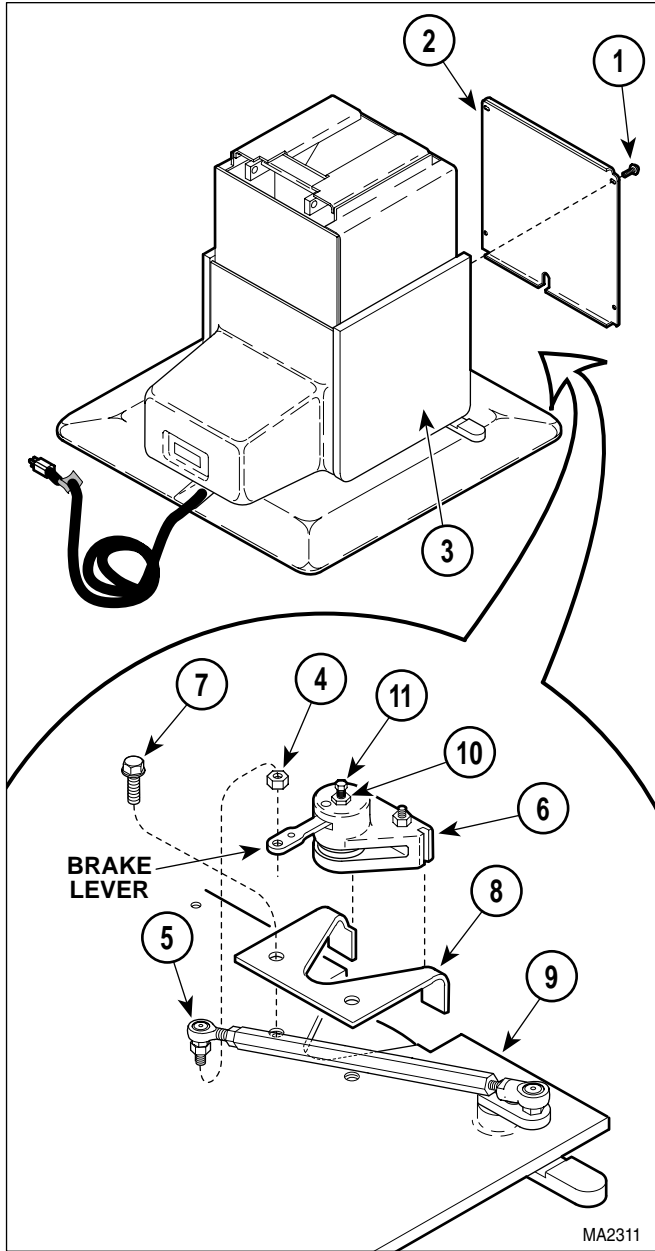

Figure 4-36. Brake Removal / Installation
- (1) Raise TABLE UP function all the way up.
- (2) Unplug table power cord from outlet.
- (3) Remove four screws (1, Figure 4-36) and front outer shroud (2) from left and right hand outer shrouds (3).
- (4) Loosen nut (4).
- (5) Unscrew rod end (5) from brake lever of brake (6).
- (6) Remove two screws (7). Then remove brake (6) and bracket (8) as an assembly from platform base weldment (9).
- (7) Remove brake (6) from bracket (8).